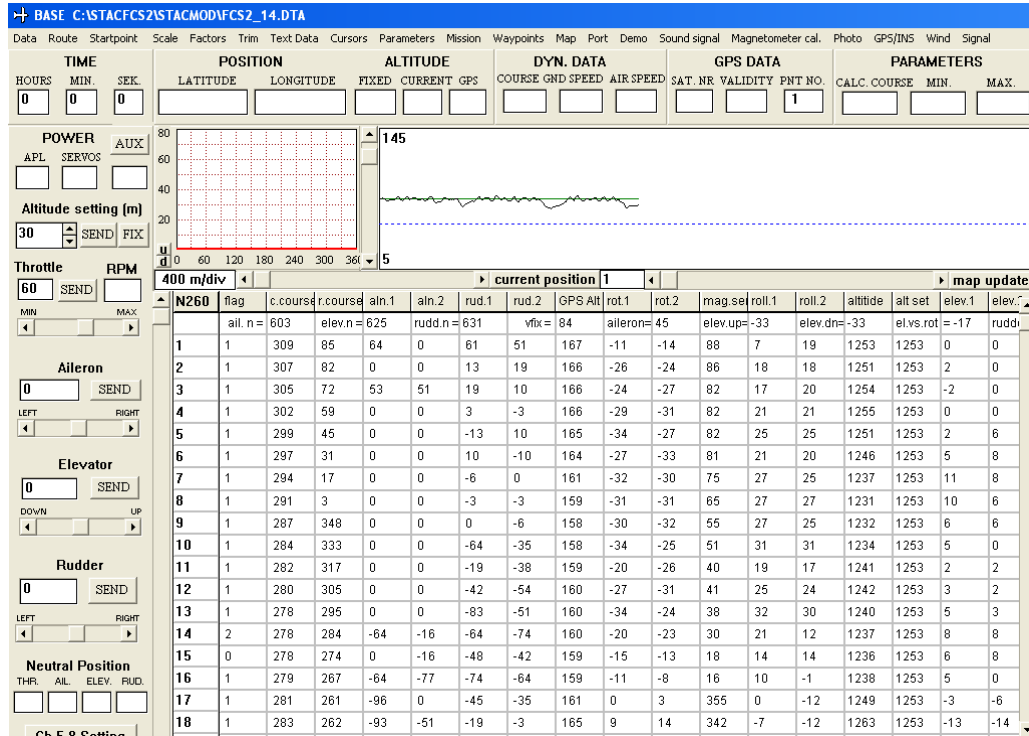

Figure 17. Text data for first 18 seconds of real autonomous flight.
Figure 17 shows the text data (not all) for first 18 seconds of the real autonomous flight. The route of the same flight is shown on the figure 18. After reaching the last point (4) the plane turns to the start point (0) and then flies towards to the 1 point again. Special changes were made in autopilot software for this behaviour. After travelling the route 3 times the manual control mode was turn on.